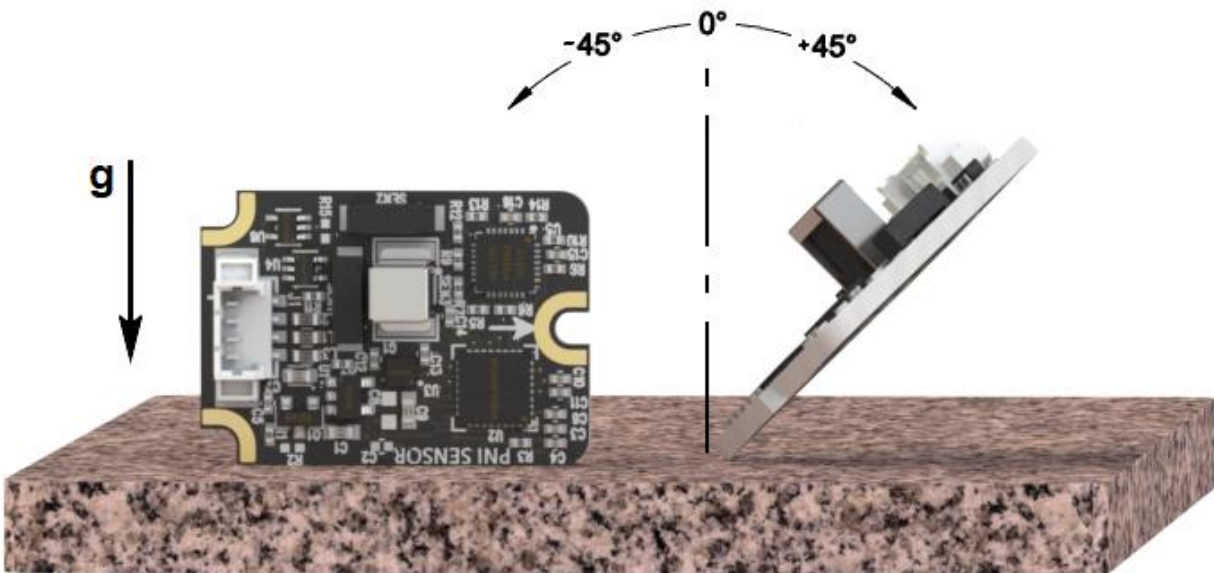

Figure 5-2: Accelerometer Calibration Starting Positions
Figure 5-2 shows the two basic starting positions for Accelerometer Only Calibration. Calibration can occur within the user's system or with the module alone. It is not necessary to place the Prime Pro on a flat surface as shown, but it must be held very still during calibration, and holding it against a stable surface is a way to help ensure this.
- Starting with the Prime Pro as shown on the left in Figure 5-2, rotate the module such that it sits on each of its 6 faces. Take a calibration point on each face.